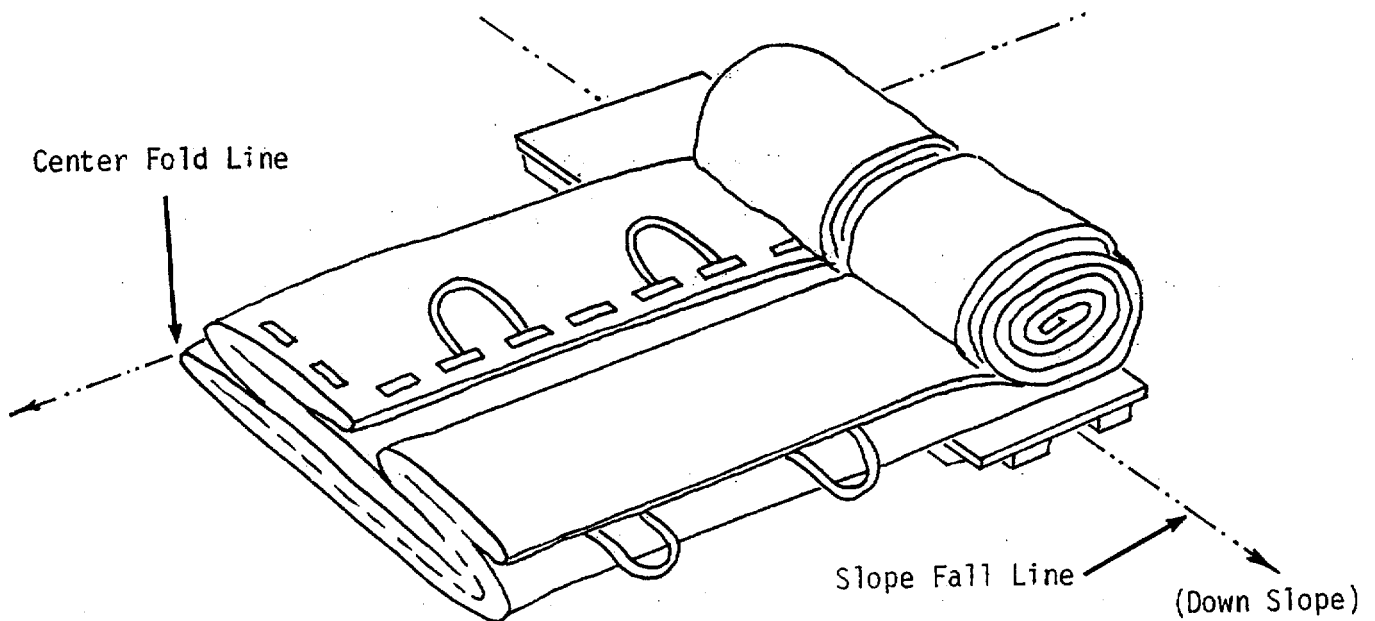

Figure 2-3. One Tank End Unrolled
- i. Unroll one end of tank by pushing on roll. (See Figure 2-3.)